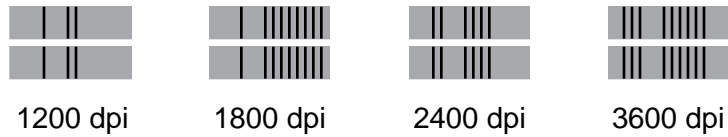

Figure 5.2. Bar codes indicate the resolution (dpi value) used to image a test page.
- The resolution is indicated by a bar code. See Figure 5.2.